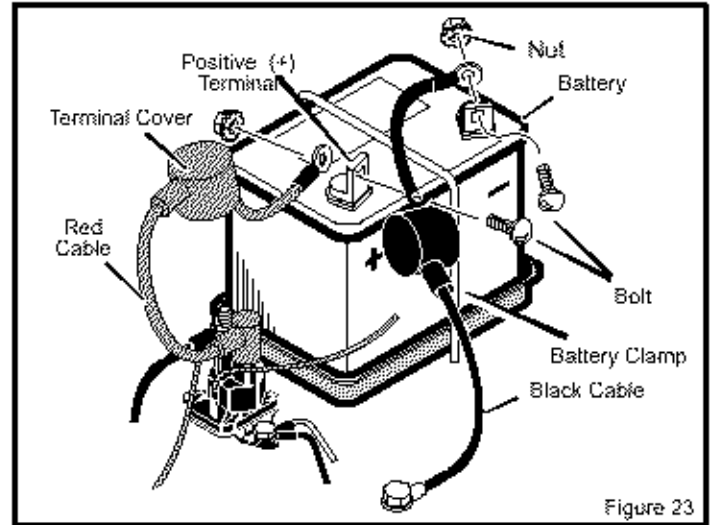

Figure 23
1. Remove the **black cable** from the **negative (-) terminal** (Figure 23).